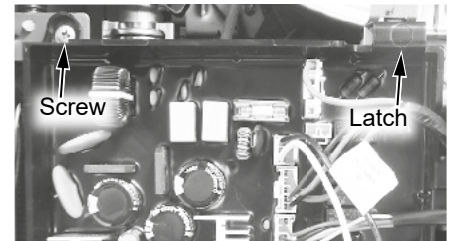

Figure 3 - Control board location
14 Locate the screw securing the control board panel. Use a Phillips screwdriver to remove the screw and place it aside in a safe place for reinstallation. See Figure 3.
- 18 Trace the yellow wires from the condensate trap to the red wiring harness and disconnect them. See Figure 3.
NOTICE: The harness uses a black security clip. Use a small flat blade screw driver to remove and keep this clip for reinstallation. See Figure 3.